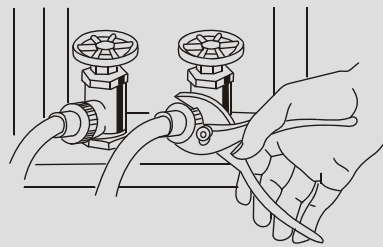

Figure 2
2. Respectively attach the water inlet hoses to the hot water faucet and the cold water faucet. Using pliers, tighten the coupling. (As figure 2)